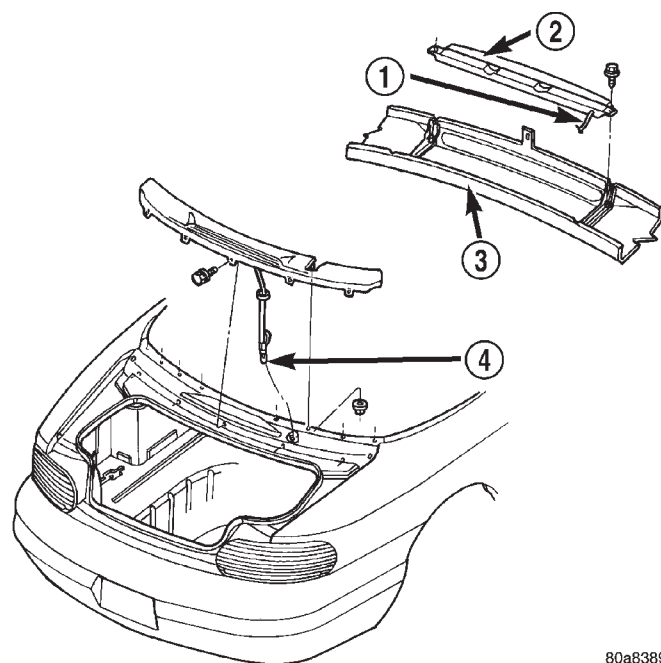

Fig. 4 Center High Mount Stop Lamp
- (1) Remove upper deck molding. Refer to Group 23, Body, for proper procedure.
- (2) Remove screws attaching CHMSL assembly to upper deck molding (Fig. 4).
- (3) Remove trunk trim panel as necessary to connect CHMSL wire connector.
- (4) Remove CHMSL from upper deck molding.